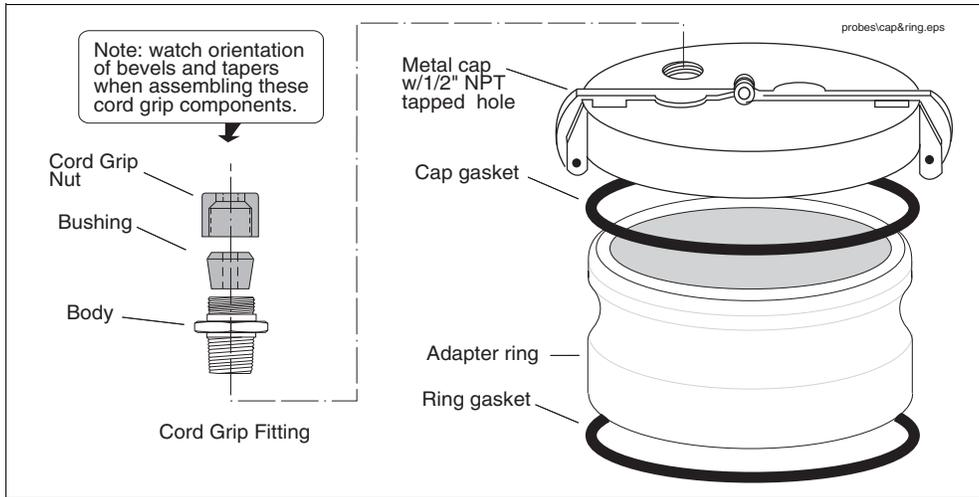

Figure 7. Metal Cap And Ring Kit
This riser cap kit contains an adapter ring which screws onto the 4" NPT riser and a quick-release metal cap which clamps onto the ring (Table 5). The cap comes drilled and tapped with a cord grip (Figure 7).
2. If you are installing the metal cap and adapter ring (see Figure 7 on page 10), screw the ring onto the 4" riser until the gasket contacts the pipe, then use a pipe wrench to tighten it an additional 3/4 turn. Push the cable through the metal cap and cord grip, then clamp the cap onto the ring.
2. If you are installing the metal cap and ring (see Figure 7 on page 10), screw the ring onto the 4" riser until the gasket contacts the pipe, then use a pipe wrench to tighten it an additional 3/4 turn. Using UL-classified pipe sealant (suitable for the fuels involved), screw the cord grip fitting into the tapped hole and tighten. Place the cord grip bushing in the fitting. Discard the cord grip nut and loosely screw the adapter Nut from the AST kit onto the cord grip fitting (see Figure 3 on page 6). Push the cable through the metal cap, bushing, and adapter nut, then clamp the cap onto the ring. Make sure there is a minimal amount of slack between the probe and cap, then tighten the adapter Nut until the cable is held firmly.